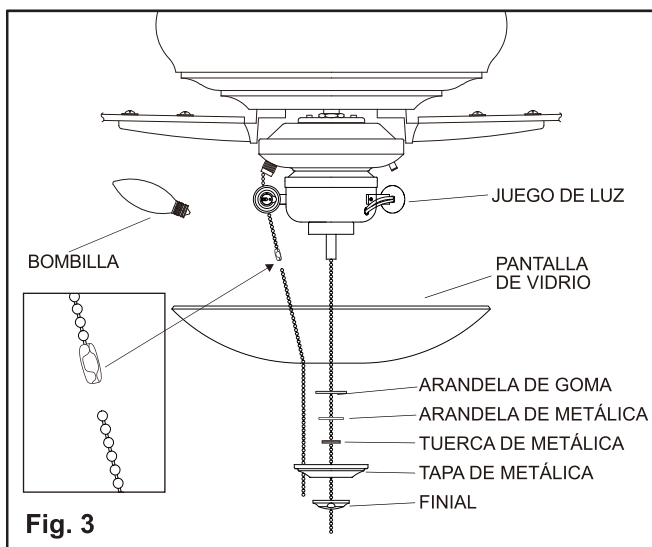

Fig. 3
6. Remove the rubber washer, metal washer, metal nut, metal cap and finial from the light kit. Place glass shade over the light kit stem, secure with the rubber washer, metal washer, metal nut, metal cap and finial. Do not overtighten. (Fig.3)